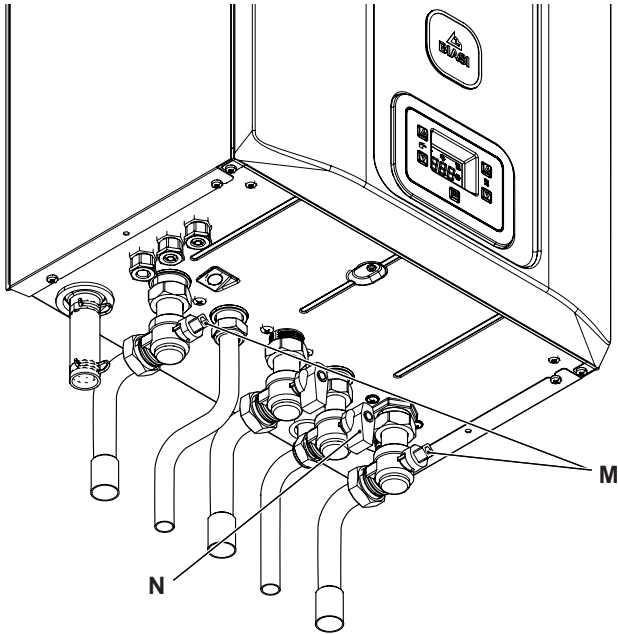

Figure 2.10
- 1 Close the C.H. circuit flow and return cocks "M" (Figure 2.10).
- 1 Close the D.H.W. inlet cock "N" (Figure 2.10).